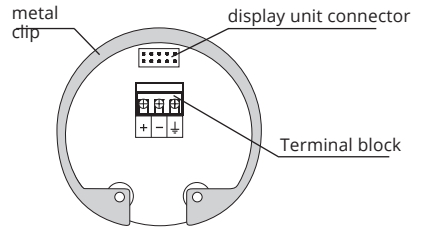

Fig. 17: Inside view of screw terminals of the level meter with current output ULM-70_--I
5. Connect the cable to the screw terminals according to the diagram in Fig. 17 or 18. Firmly tighten the terminals and the cable outlet.